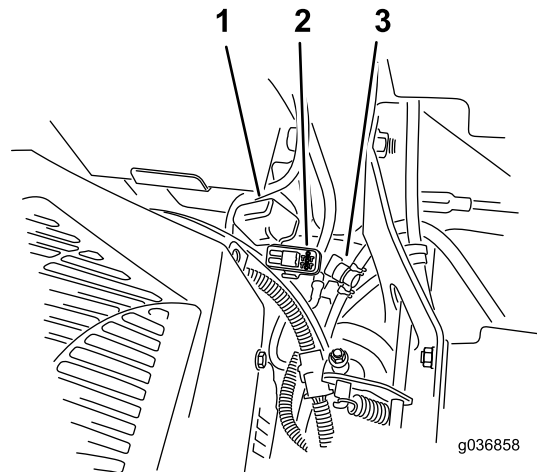

Figure 56
The fuses are located on the right console next to the seat (Figure 56).
2. Install a new fuse (Figure 56).